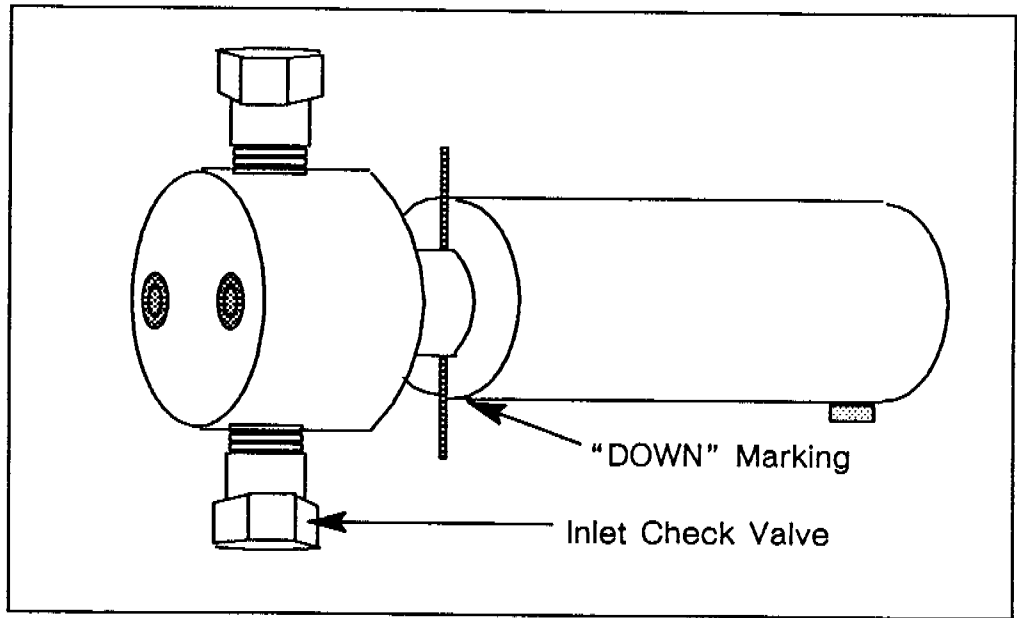

Fig. 5.10 Alignment of Check Valve
3. Install the pump head onto the housing using the two 9/64-inch allen cap screws. For the inlet liquid end, the inlet check valve must align with the "DOWN" marking on the housing (Fig. 5.10). Tighten the screws to 40 inch/pounds (tight).